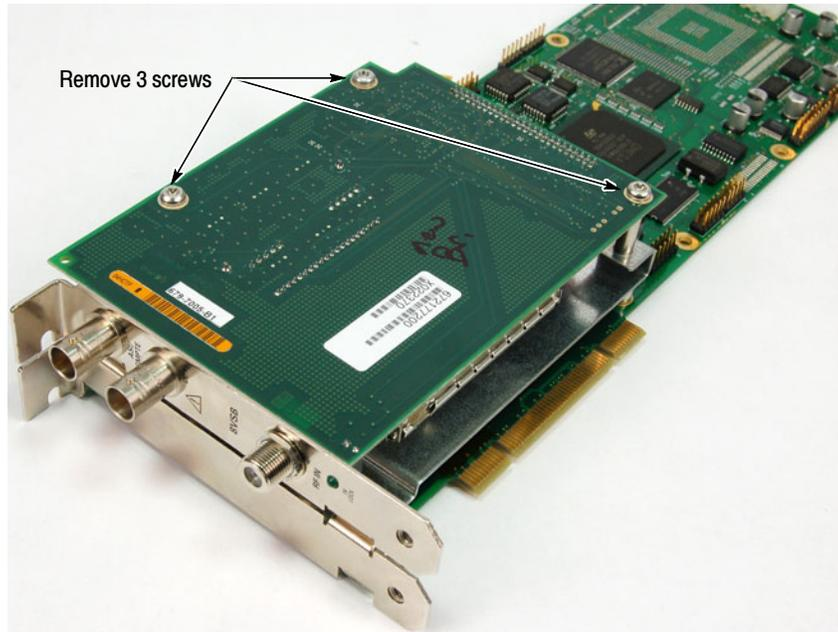

Figure 16: Top circuit board retaining screw locations
11. Remove the three retaining screws from the top circuit board of the interface module (see Figure 16).
16. Install the three retaining screws in the top circuit board of the interface module (see Figure 16 on page 18).